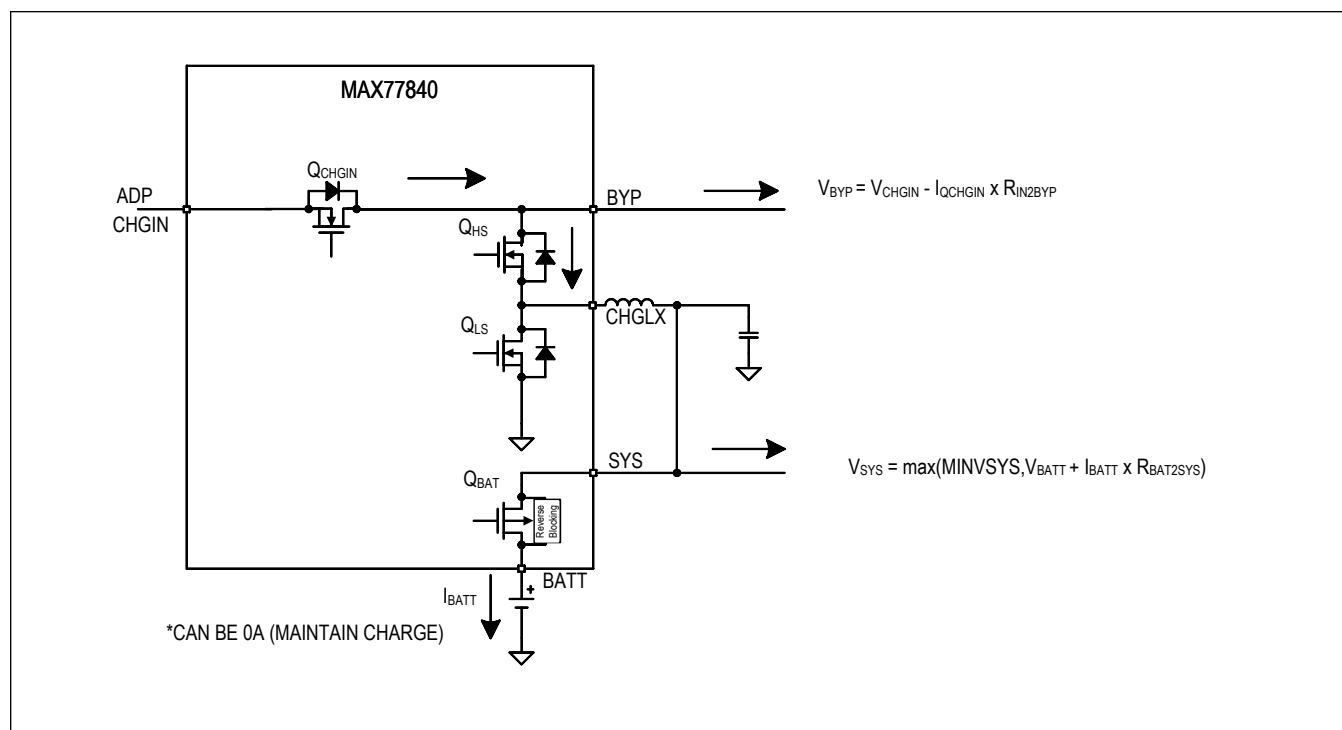

Figure 8. Charge-Buck
6. CHARGE-BUCK, MODE = 0x0D: The adapter is detected within the input voltage operating range ($Q_{CHGIN} = \text{on}$). Battery is connected in charge mode ($Q_{BAT} = \text{on}$) and charger is operating in buck mode, see Figure 8.